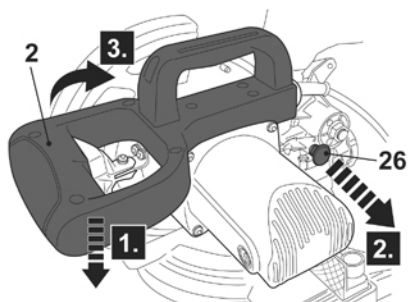

Fig. 1
- > Push the operating handle (2) downwards (Fig. 1, step 1) and pull the locking bolt (26) outwards (step 2) all the way to the stop.
- > Lift the operating handle (2) to its full height (step 3).